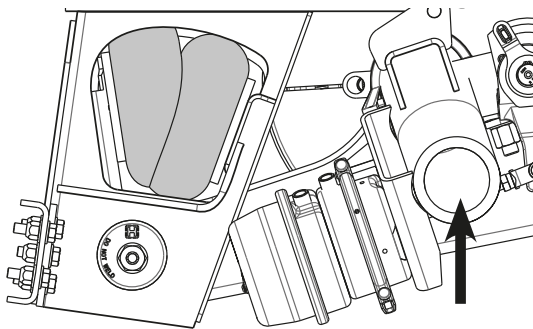

Figure 19: Raise axle to remove lift air spring
6. Raise axle and support with stands. Refer Figure 19.